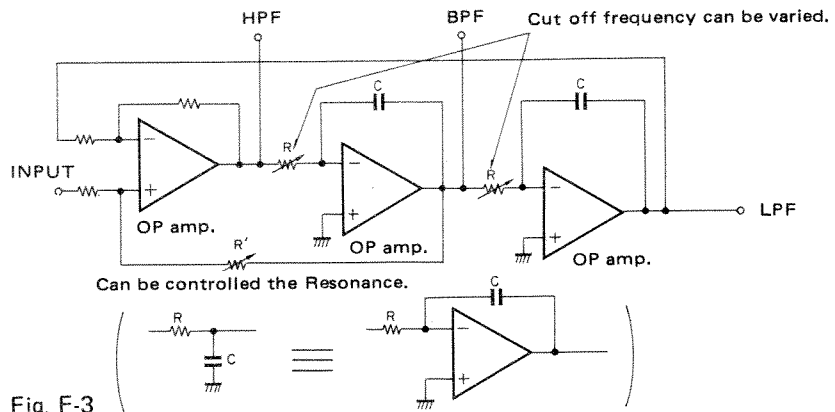

Fig. F-3
To ensure accurate operation of the circuit, a circuit as shown in Fig. F-3 is composed by employing an integrating circuit. The cut-off frequency of the filter is determined by R and C with which the integrating circuit is formed. In other words, by changing R to a variable resistor as shown in Fig. F-3, it is possible to change the cut-off frequencies of the filter freely. Further, by changing R', it is possible to control resonance (Q) also in a free manner.